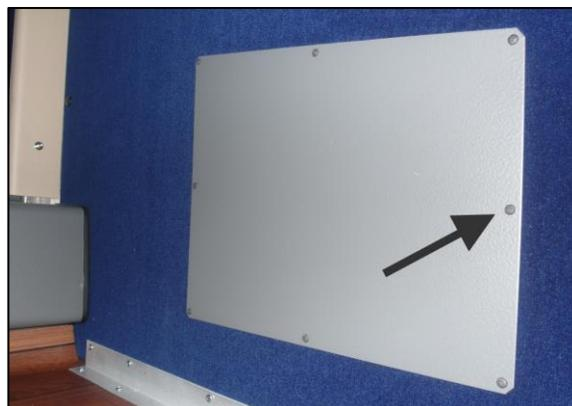

FIGURE 24
33. Reinstall the service opening panel with the screws (8) (Figure 24).